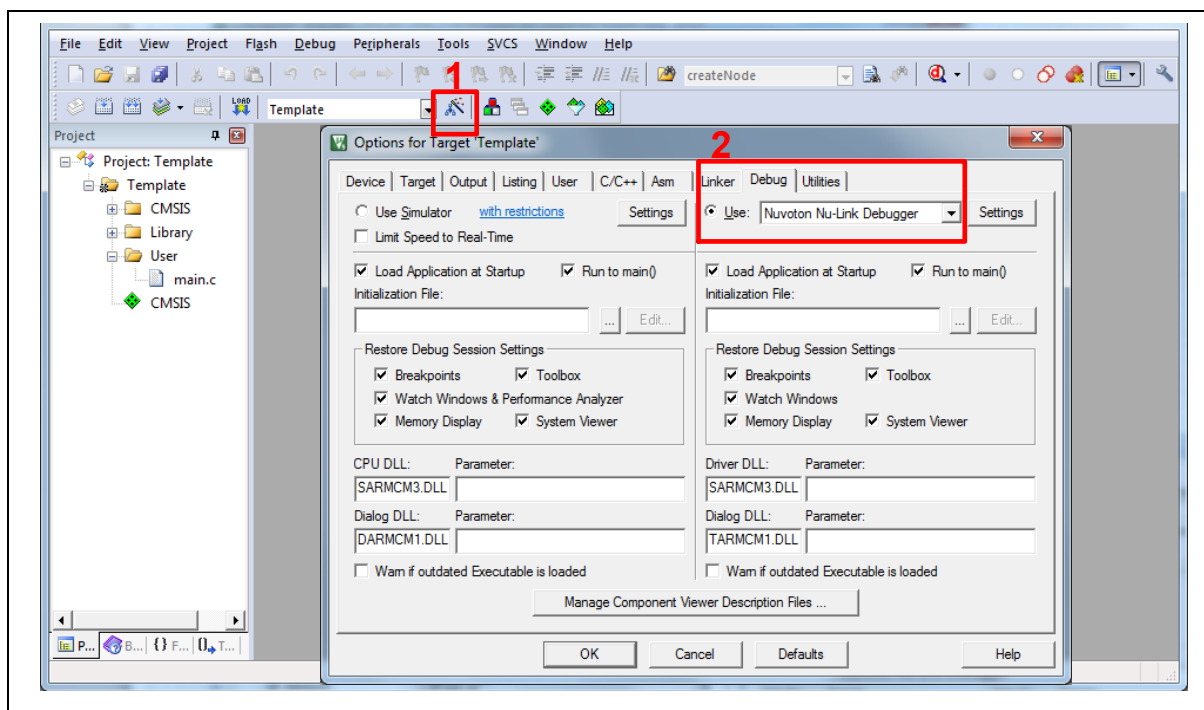
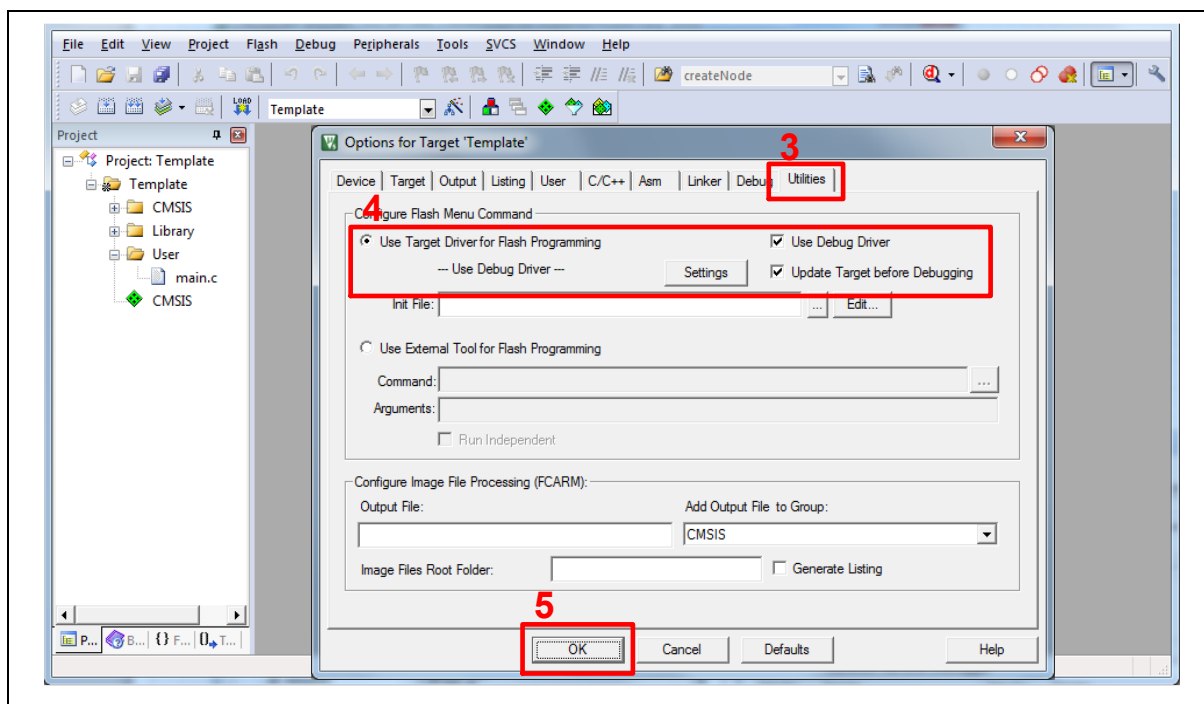

Figure 4.6-3 Debugger Setting in Options Window
Figure 4.6-4 Programming Setting in Options Window
6. Make sure the debugger is “Nuvoton Nu-Link Debugger” as shown in Figure 4.6-3 and Figure 4.6-4.
Note: If the dropdown menu in Figure 4.6-3 does not contain “Nuvoton Nu-Link Debugger” item, please rework section.